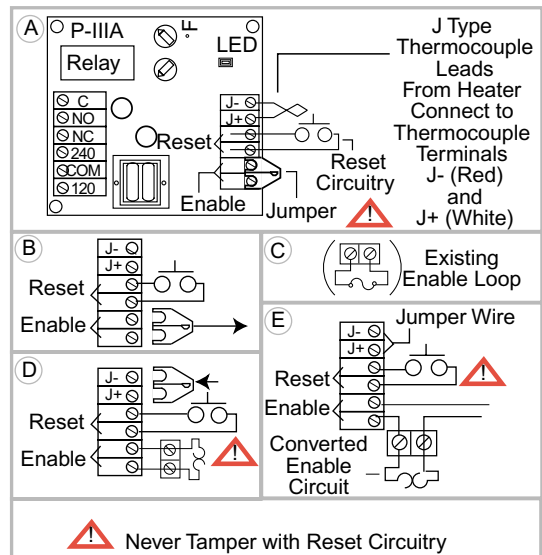

Figure 7 Wiring to Convert PIIIA for PTI/PTII and Loop Devices
- 7 On the existing enable loop, Figure 7, C, disconnect one leg of the enable circuit.
- 8 Install any gauge jumper wire across J- and J+, Figure 7, E.